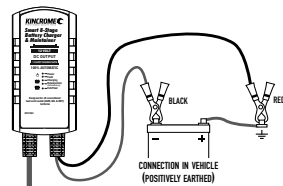

Fig. 3
- FIRST Connect the Black (-) Crocodile clip or ring terminal lead to the negative (-) battery terminal and then connect the Red (+) Crocodile clip or ring terminal lead to the vehicle's chassis (Fig 3).